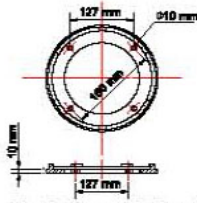
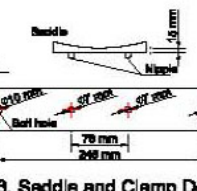

Fig. 3, Saddle and Clamp Detail
Fig. 4, Grooved Connector Detail
2. Install Saddle (4) to Skid Frame (2). Drill two 7 mm diameter holes on Skid Frame. Position Saddle nipple into two 7 mm diameter holes on Skid Frame. Tap Saddle with rubber mallet to mount the nipple into the hole. Refer to Figure 3, Saddle and Clamp Detail.
3. Partial Install of Module Clamp (6). Drill two 10 mm diameter holes on Skid Frame. Fix one side of clamp with Bolt (8) (M8-Size, 90 mm length, by Dow). Refer to Figure 3, Saddle and Clamp Detail.
4. Drain Preservative. At Openings 1, 2, and 3, remove Port Plug (7). Place UF Module in vertical position to drain out preservative. Appropriate Environmental, Health, and Safety measures should be taken for handling and disposal of the preservative. Port Plug may be retained for future use.
5. Mount UF Module (8) to Base Clip (1). Chain block or hoist is recommended for handling and positioning of UF module. Base of UF Module will wrap into Base Clip.
6. Place Head Cover (8) on the top of UF Module (8). The use of Head Cover is optional, and for aesthetic purposes.
7. At Openings 1, 2, and 3, use Coupling (10) and Coupling Gasket (11) to connect UF Module port with Grooved Connector (12) (DN50, by Customer). The bolts for Couplings should be tightened to torque of 5 to 10 N.m. The length of Grooved Connector will depend on pipework design of the Skid Frame. Refer to Figure 4, Grooved Connector Detail.
8. At Opening 4, remove Threaded Plug (13), and fit Quick Tube Connector (14) with Composite O-Ring (15) at the bottom of UF Module. Refer to Figure 4, Bottom End Cap Detail. Threaded Plug may be retained for future use.